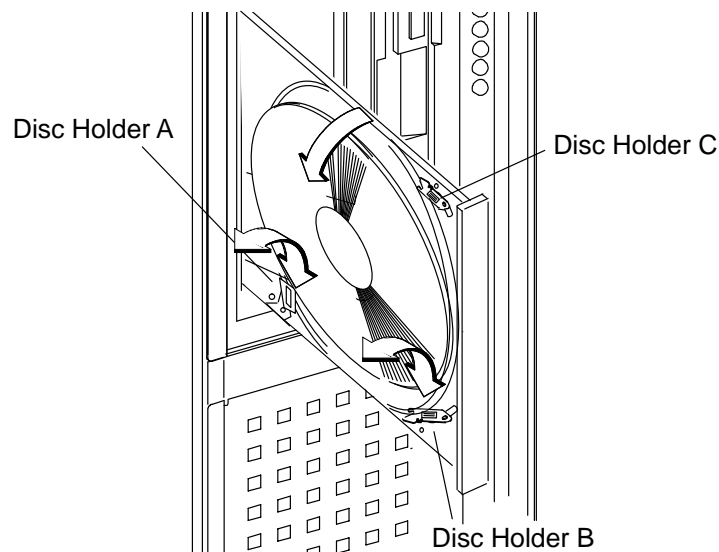

Figure 2-6. Removing a CD-ROM Disc from the Disc Tray (Vertical Mount)
2. Press down gently against the spring tension of disc holders A and B and swing the top of the disc away from disc holder C, as shown in Figure 2-6